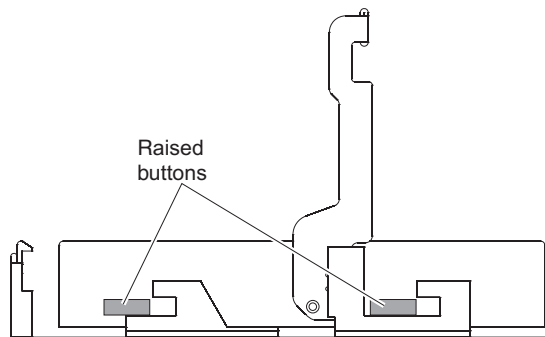

Figure 74. Aligning the drive
- b. Align the two raised buttons on each side over the matching gap in the drive channel on the drawer, as shown in Figure 74.